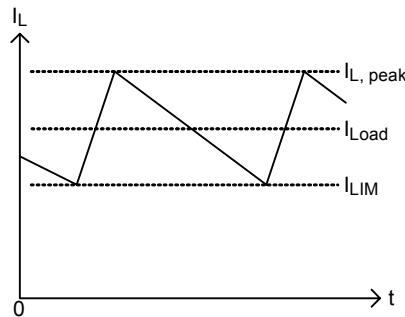

Figure 7. "Valley" Current Limit
RT8208A/B has cycle-by-cycle current limiting control. The current limit circuit employs a unique "valley" current sensing algorithm. If the magnitude of the current sense signal at CS is above the current limit threshold, the PWM is not allowed to initiate a new cycle (Figure 7). In order to provide both good accuracy and a cost effective solution, the RT8208A/B supports temperature compensated MOSFET RDS(ON) sensing. The CS pin should be connected to GND through the trip voltage setting resistor, RCS. The CS terminal source 10 $\mu$ A ICS current, and the trip level is set to the CS trip voltage, VCS as in the following equation.